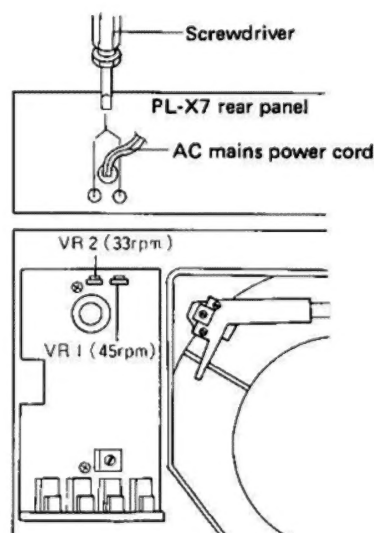

Fig. 13-6 Phono Motor Speed Adjustment
2. Adjust the speed adjustment VR from the rear of the PL-X7. Short circuiting of the VR to the rear panel via the screwdriver during this adjustment can result in a change in the speed setting. If using a metallic screwdriver, it is recommended that the shaft of the driver be wound with insulating tape, and that direct contact between driver and rear panel be avoided. (See Fig. 13-6).